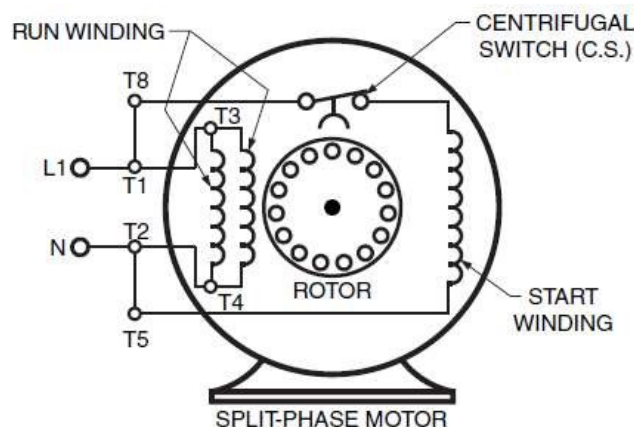

Figure 2: A split-phase motor electrical connections diagram
5. Wire the motor windings together in the split-phase configuration as shown in Figure 2.